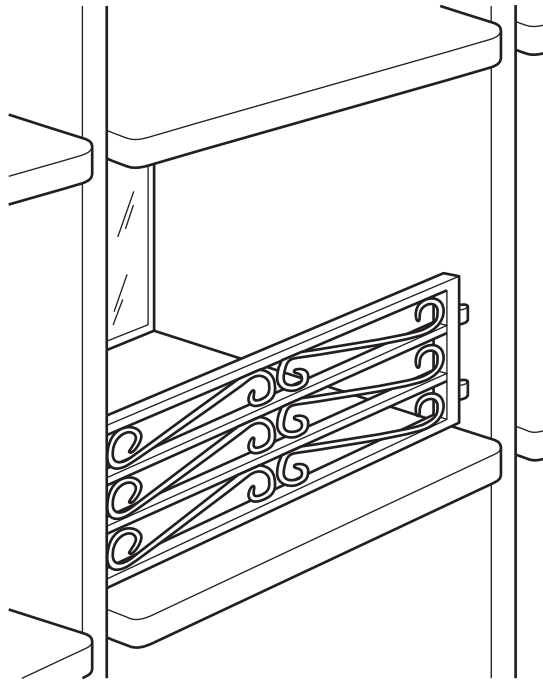

Fig. 2
Fig. 2 shows a decorative metal screen on a hotel balcony.
(a) Give **four** design requirements for the decorative screen shown in Fig. 2. Justify each requirement.
- (b) Describe **two** examples where ergonomics has influenced the design of the decorative metal screen on a hotel balcony shown in Fig. 2.